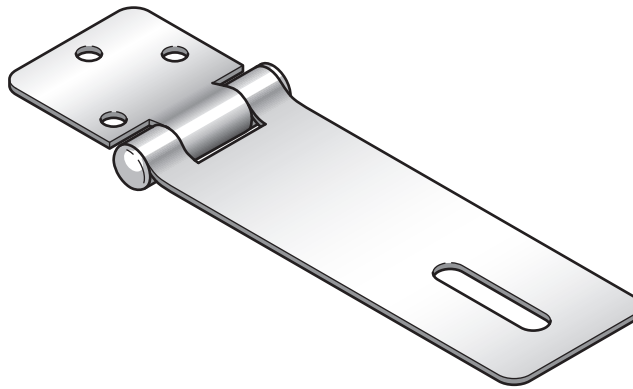

Fig. 7.1
- 7 Fig. 7.1 shows an incomplete drawing of a hasp and staple fitting.
Add sketches and notes to Fig. 7.1 to complete the drawing of the hasp and staple fitting. [2]